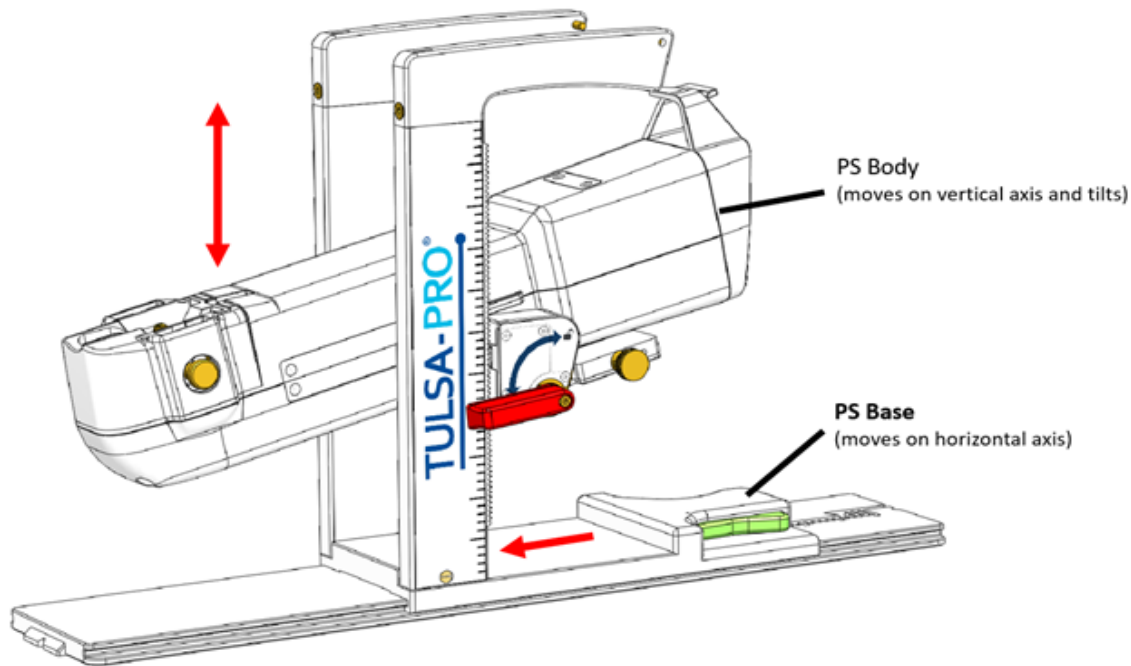

Figure 25: Adjusting the Positioning System
3. **MRI Technologist:** Manually move the PS into position so that the UA gripper aligns with the natural angle of the UA in the patient. Manually adjust the PS forward and backward, up and down, and left to right, and tilt the linear axis of the PS up and down (*Figure 25*).
NOTE: The PS adjustment knobs and levers are not colored as in *Figure 25*, but are colored here to help with these instructions.